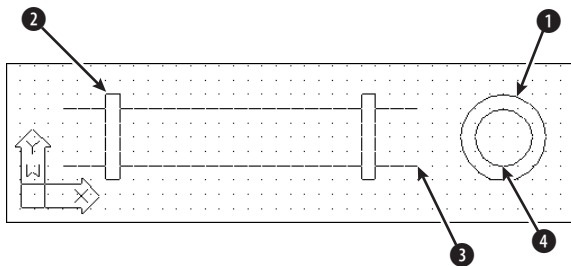

Figure 6-4: The pipe with cross-section
4. At the **Specify a point or [Hor/Ver/Ang/Bisect/Offset]:** prompt, choose point **1**, shown in Figure 6-4.
5. At the **Specify through point:** prompt, choose point **2**, shown in Figure 6-4.
8. At the **Specify start point:** prompt, choose point **3**, shown in Figure 6-4.
9. At the **Specify through point:** prompt, choose point **4**, shown in Figure 6-4. Press **Enter** to end the command.